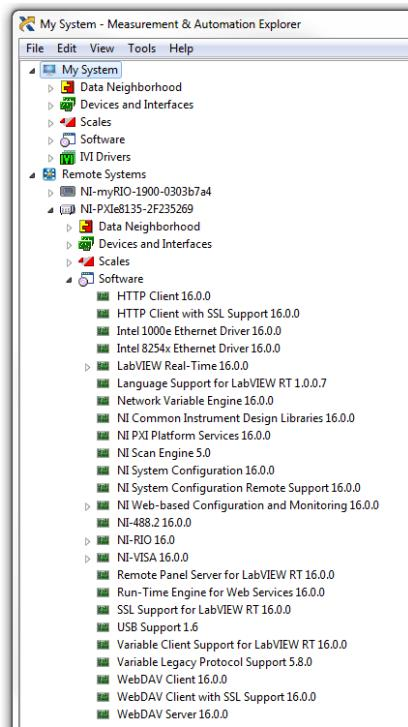

Figure 20: List of required software which must be installed to the PXIe controller
4. In the LabVIEW Real-Time Software Wizard, select the recommended software set as shown in Figure 20 for the NI PXI. For every software component that must be installed, left click on the **X** or **checkmark** symbol and click on **Install this Feature** (see figure below).